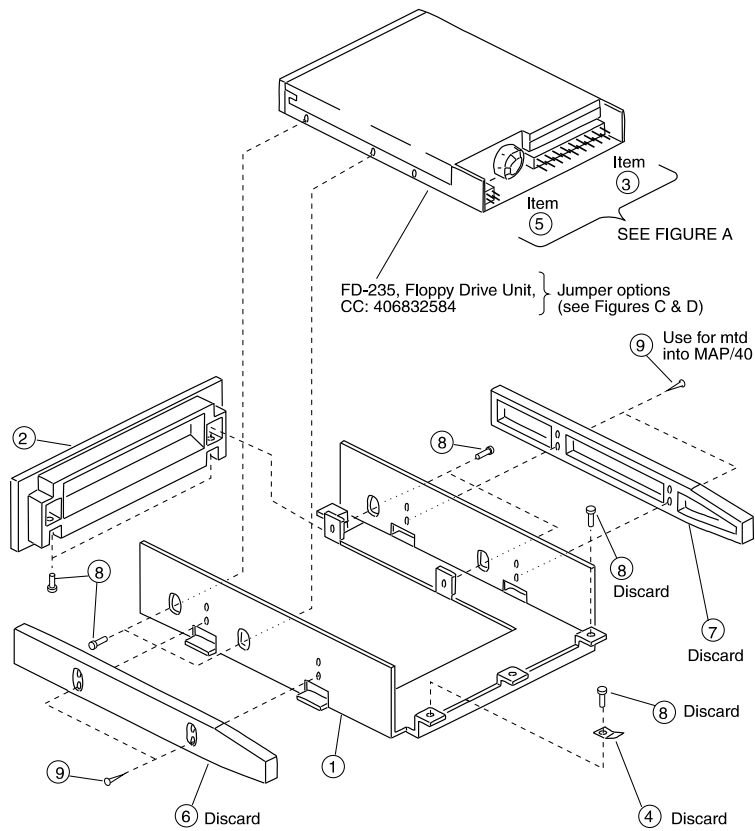

Figure C-9. Floppy Disk Drive Assembly
14. Remove the four 3 millimeter Phillips head screws that secure the drive unit (FD-235) to the 5.25" FDD hardware mounting kit. These screws are identified as item(s) #8 in Figure C-9.
15. After the screws are removed, slide the drive unit back to clear the front bezel shown as Item 2 in Figure C-9. Upon removal, place the FDD upside-down with the printed circuit board facing up on an ESD-protected surface.